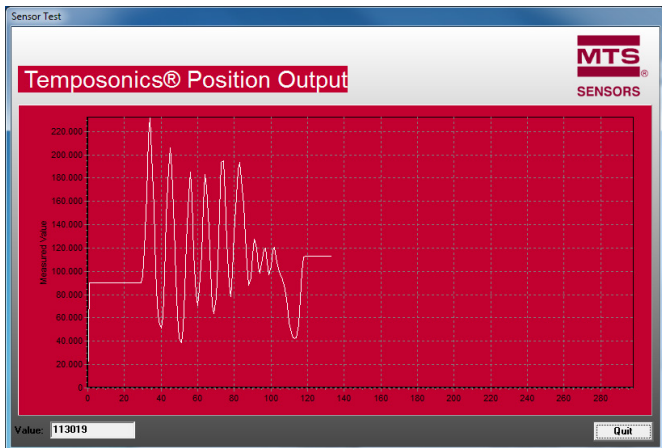

Fig. 40: Data display
- 4 Menu **Test Sensor** provides a data display (Fig. 40), which shows the absolute position of the position magnet. Compared with the sensor measuring rate, the serial data transmission between sensor and PC is relatively slow, i.e. not every measured value can be displayed. For this reason, only every 50th measurement value appears in the diagram.